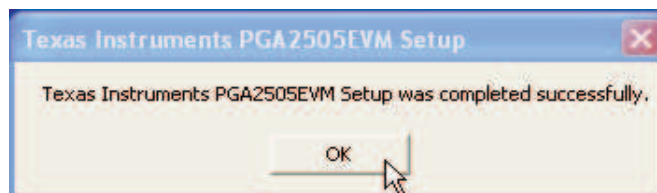

Figure 11. PGA2505EVM Software Setup Completion
Step 7. Click OK to complete the installation, as Figure 11 shows.